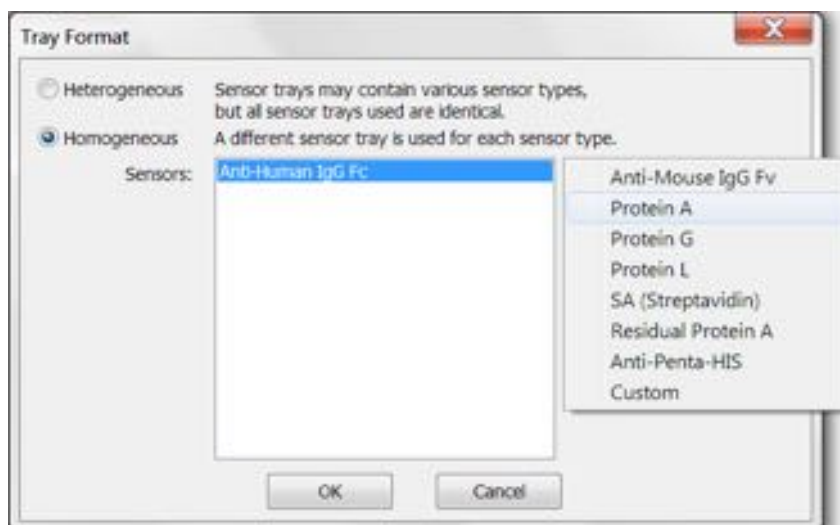

Figure 5-43: Selecting a Biosensor Type in the Tray Format Dialog Box
2. Select **Homogeneous**. Click **Add** to select the first biosensor type (see Figure 5-43).